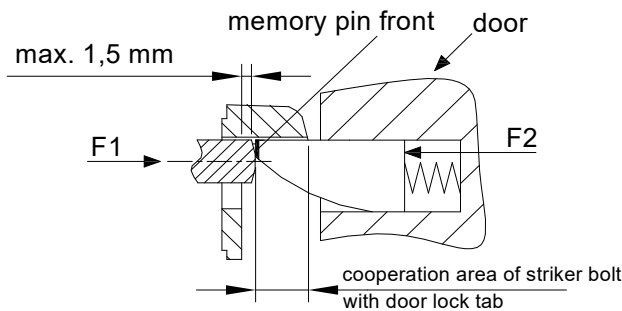

Fig. 1 Memory pin cooperating with door lock tab
3. Screw the striker with the plate into the door frame or post in such a way that the door lock tab cooperates with the electric strike bolt tab at the largest possible area, and that the memory pin protrudes from the striker at the maximum distance of 1.5 mm (Fig. 1):
- ✓ The door lock tab should cooperate with the front part of the striker memory pin (Fig.1).